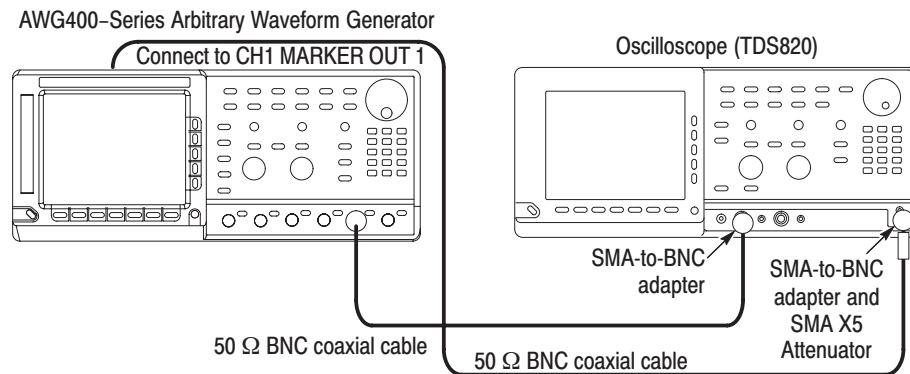

Figure 5-11: Channel skew test hookup for CH3
20. Disconnect the BNC cable at the AWG CH2 output connector, and then connect to the CH3 output connector (see Figure 5-11).